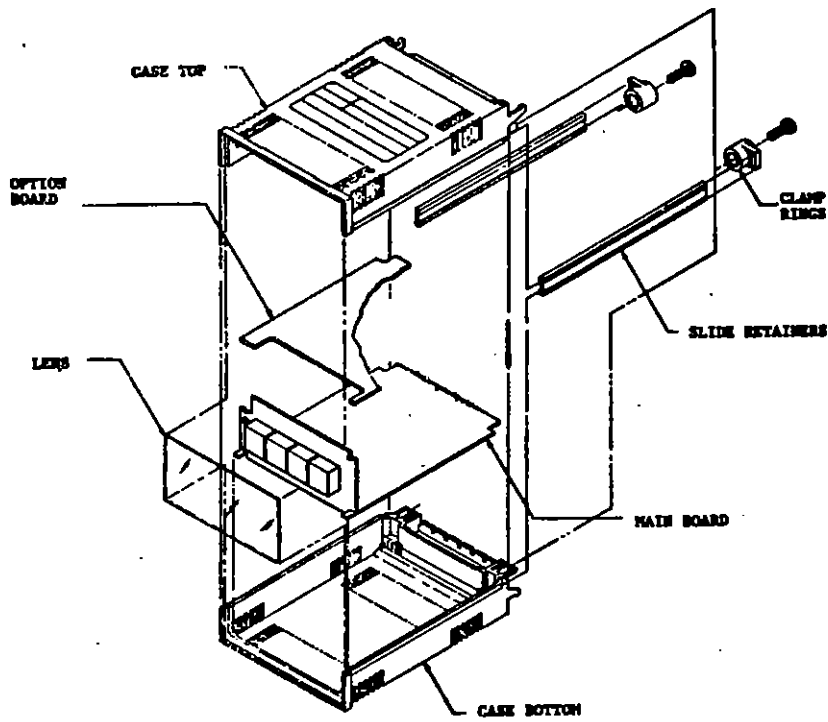

Figure 3. DPVM Exploded View
- B. Referring to Figure 3, loosen two #8 phillips-head screws on the rear of the instrument case and remove the two clamp rings.